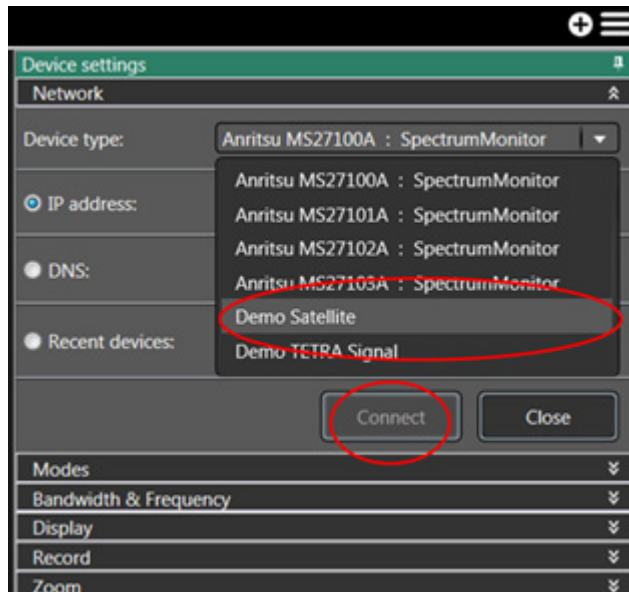

Figure A-1. Device Type Drop-Down List: Demo Satellite Selected
2. Click **Connect**. See red highlights in Figure A-1, “Device Type Drop-Down List: Demo Satellite Selected”.